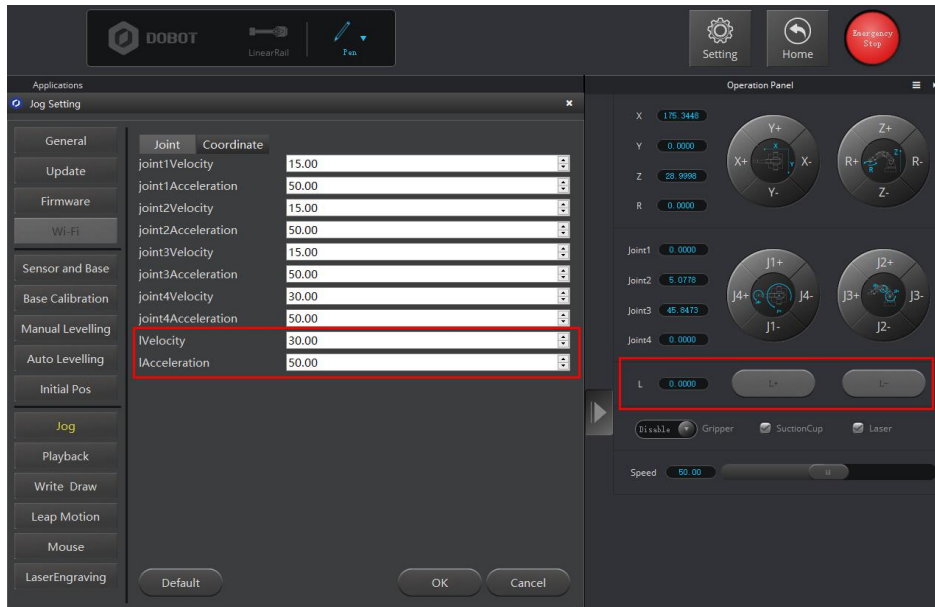

Figure 1.12 LinearRail motion test
Step 2 Click **L+** or **L-** to test whether sliding rail can move properly. As shown in Figure 1.12